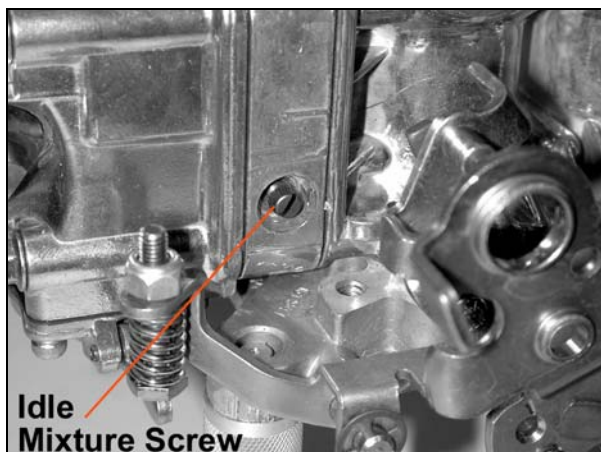

Figure 11
2. Adjust each idle mixture screw (Figures 11 & 12) 1/8 turn at a time, alternating between each screw. Turn them equally, until you achieve the highest possible vacuum reading without adjusting the curb idle speed screw. Turn screws in to lean the mixture. Turn them out to richen the mixture.